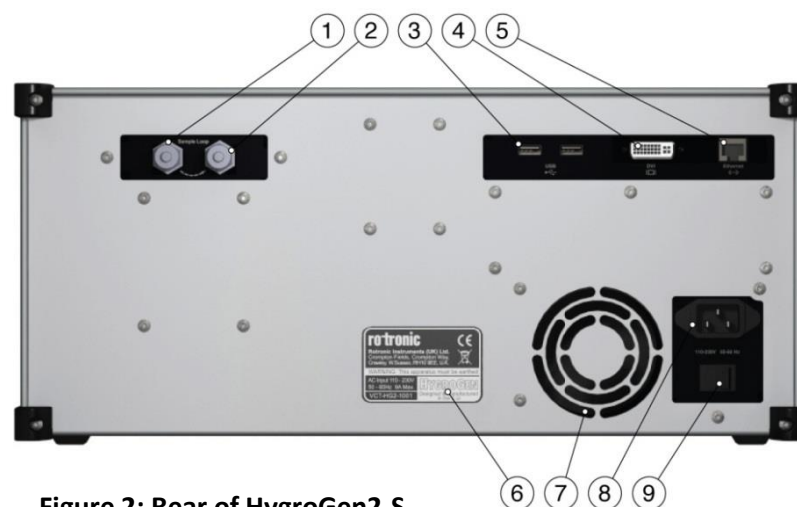

Figure 2: Rear of HygroGen2-S
This unit must be earthed. Provision for the safety earth is made through the electrical mains connection (see Figure 2(8) below) to which all parts of the unit requiring earthing are internally connected. An earthed electrical supply is required.
Before using your HygroGen2, make sure that the door is secured and that all probe apertures not in use are sealed with a bung (see Figure 2(7) above) or an appropriate alternative seal.
Unless an external sampling system is to be used (see “External Sample Loop Operation” in Appendix A1.3), ensure the sample loop caps (Figure 2(1) and (2) above) are firmly secured.
Unless an external sampling system is to be used (see “External Sample Loop Operation” in Appendix A1.3), ensure the sample loop caps (Figure 2\(1\) and \(2\) above) are firmly secured.